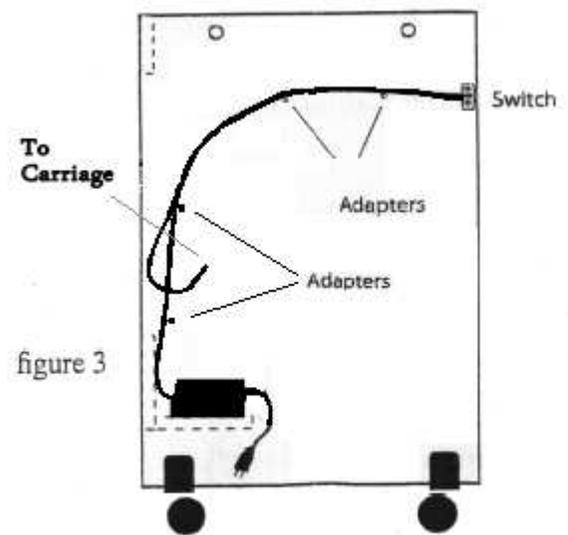

figure 3
13. To secure the cords start by fastening the switch and place the **Small Cord Adapters** around the switch cord and fasten them down using the Truss Head Screws in the pre-drilled holes as shown in figure 3.